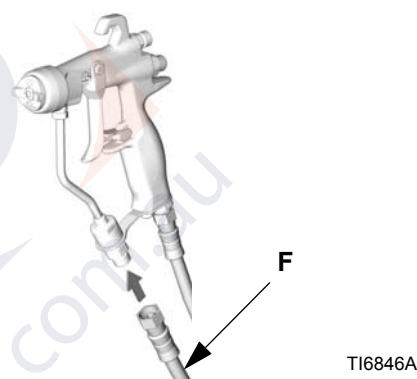

FIG. 4
2. Connect the fluid hose (F) to the gun fluid inlet. See FIG. 4. If desired, install a fluid swivel connector (189018) at the gun inlet for best maneuverability. See Accessories, page 35.